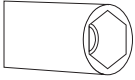

Figure 4
1. Please use driver with special head for removed and install nozzle as (Figure 4)